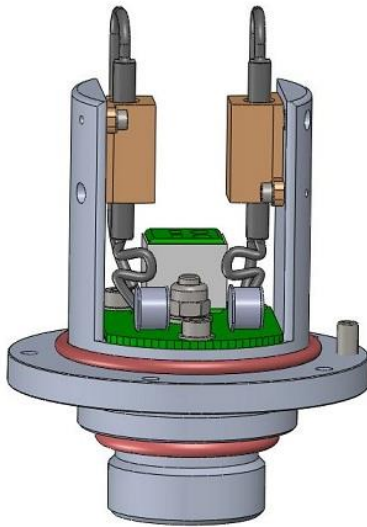

Figure 5-5: Bushing Adaptor - without top cover Figure 5-6: Bushing Adaptor - with top cover
- The top cover of the Bushing Adaptor is removed leaving the body in place as illustrated in Figure 5-5.
- 5.2.2.12 Place the O-ring in its seat for the cover (see Figure 5-5).